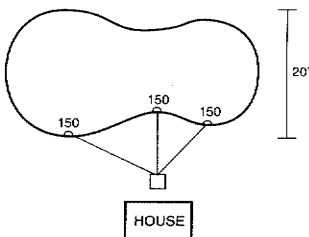

figure 4. Light Surface
- Multiple lens applications- Lenses should be placed facing away from the house or primary viewing area. The average sized residential pool will use three lenses on the long wall, shining across the width of the pool. See examples in figure 4, 5, 6 for reference.